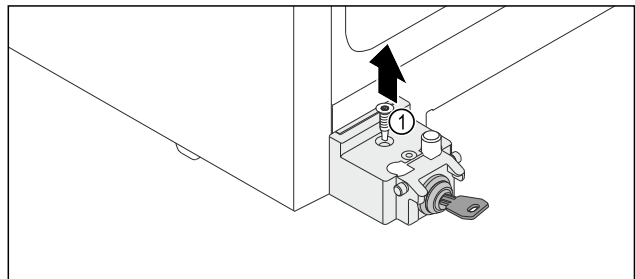

Fig. 10
- ▶ Unscrew the screw Fig. 10 (1).